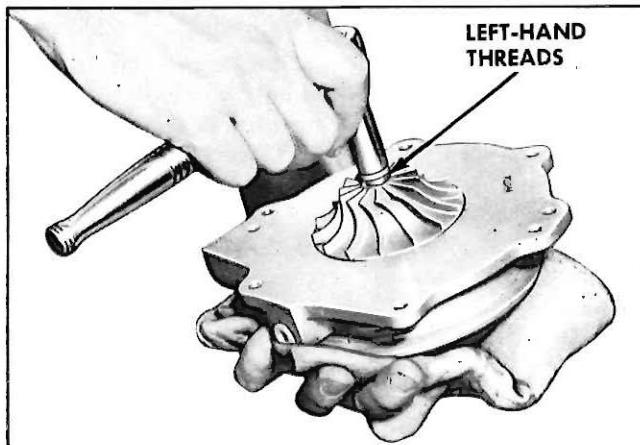

Fig. 22—Removing Impeller Nut
2. Hold the turbine wheel blades with a cloth and remove the self-locking nut (LEFT HAND THREADS) from the impeller end of the turbine shaft by turning clockwise (fig. 22), then remove the impeller washer.